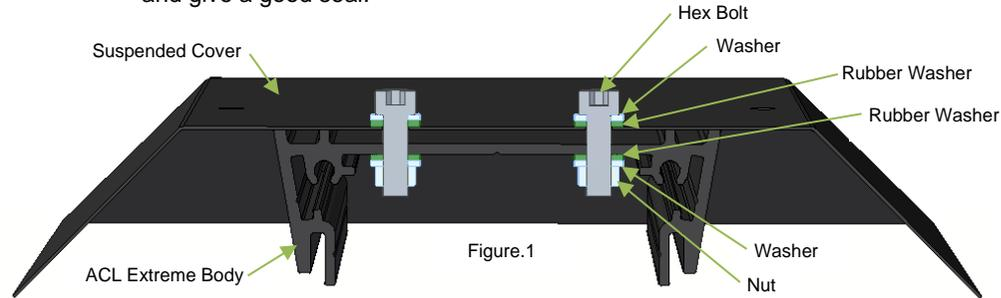
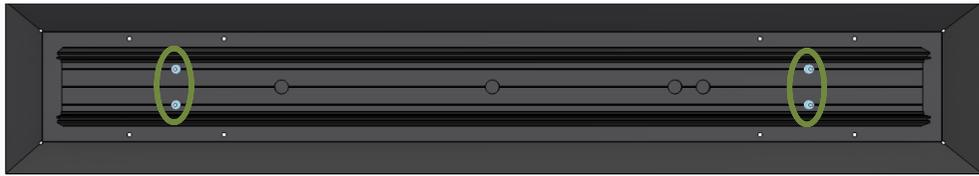

Figure.1
Figure.2
2. Nut and bolt the cover to the product extrusion as shown in (Fig.1) there are 4 bolts to be fitted (Fig.2). Ensure that the rubber washer are not overtightened and give a good seal.